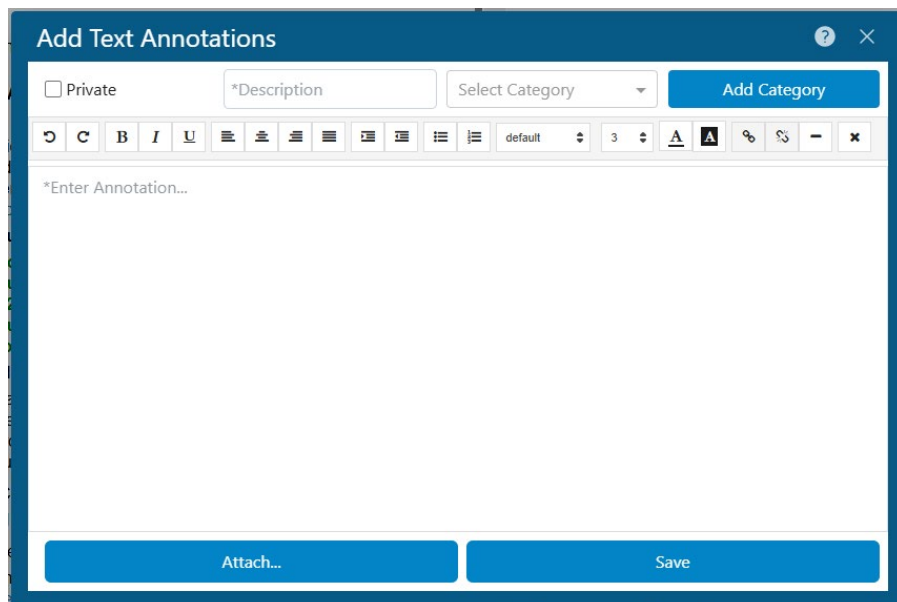

Figure 16 - Text Panel Annotations Window
1. The  annotation icon in the Text Panel Tools will open the window that follows (Refer to Figure 16):